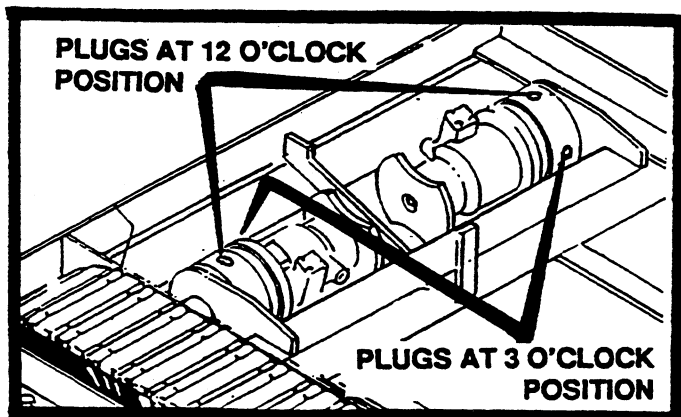

FIGURE 34
2. Check oil level in the torque hub by removing the plug at the 3 o'clock position. If oil comes out no oil is needed, Insert plug and tighten. If oil does not come out, remove the plug at the 12 o'clock position and fill torque hub with 90 wt. gear oil until oil starts to appear at the other hole. Replace both plugs and repeat process to other torque hub. See figure 34.